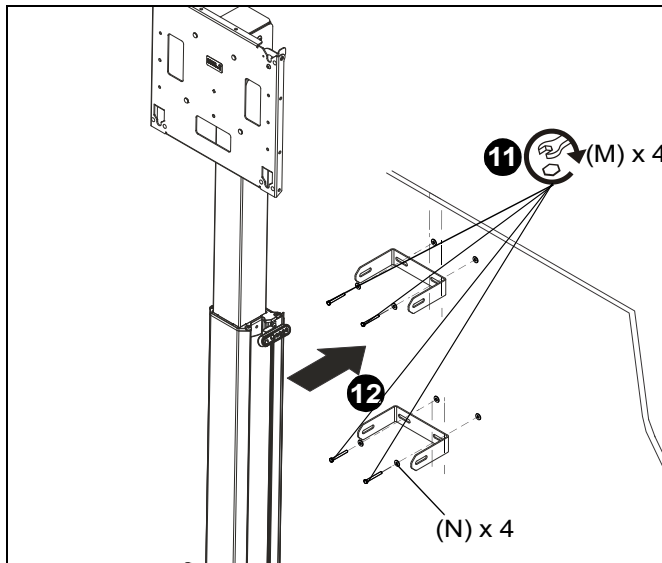

Figure 23
10. Place wall brackets (B1) over anchors and align mounting slots on mount with holes in anchors. (See Figure 23)
11. Install four 5/16-18 x 3 3/4" Phillips pan machine screws (M) through 3/16 washers (N) and slots on wall bracket (B1) and into toggler anchors (L). (See Figure 23)
12. Position column assembly (P) inside two installed wall brackets (B1). (See Figure 23)